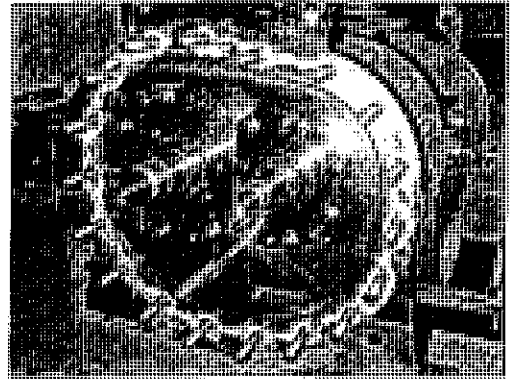

Fig. 3-31
- (18) Adjust the thrust clearance and discharge end plane clearance by grinding Adjusting Plates (D09) ~ (C12), if necessary. See "Adjusting Clearance and Dimension" of the compressor sectional assembly drawing.
- (19) Install Oil Injection Tube (D10) to Discharge Casing (B03).
- (20) Install stud bolts on Discharge Casing (B03). Place O-ring (B17) in the groove and apply Three Bond to the flange surface (Fig. 3-31).